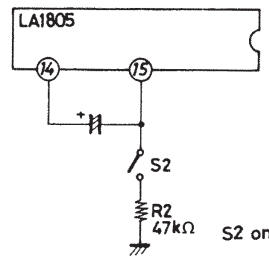

Figure 2 Forced Monaural Mode Setting Method
- (2) Connect pin 15 to GND through a resistor of 47kΩ. (Turn ON the SW2 in Figure 2.)